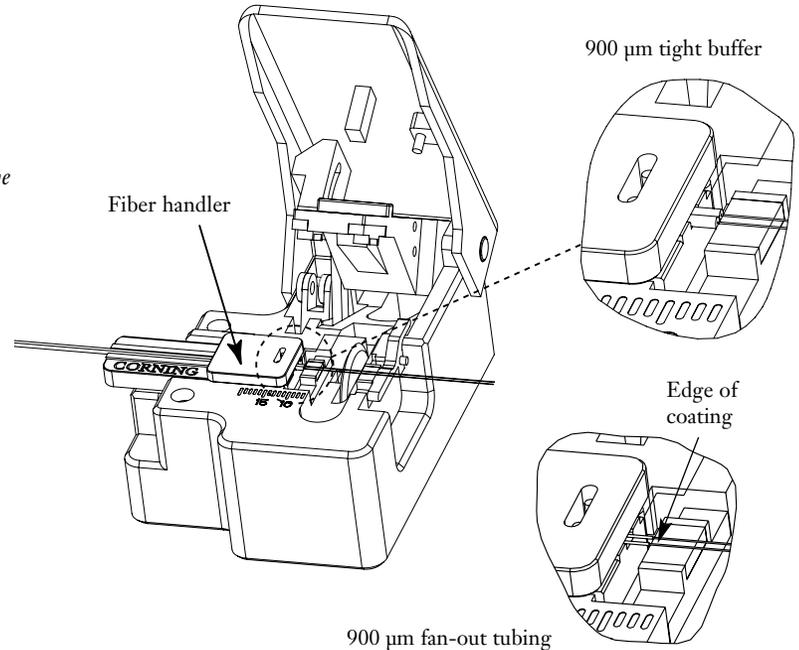

Figure 8
**5.8** Carefully position the handler in the cleaver so that the edges of the fibers' coatings butt against the edge of the left-hand elastomeric pad (Figure 8). The coating should lightly contact the pad's edge. No pressure is required.